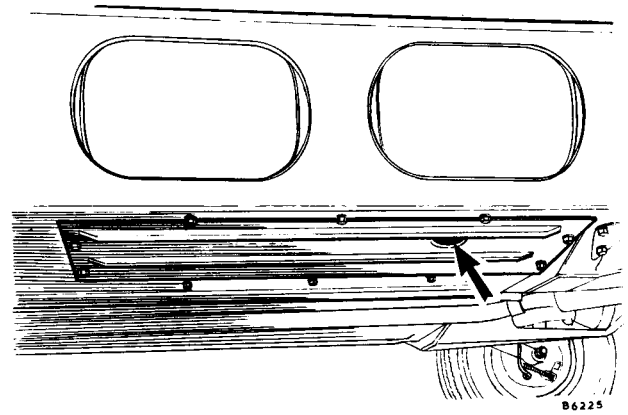

Fig. D.10
2. Drain the fuel tank (see Fig. D.10).